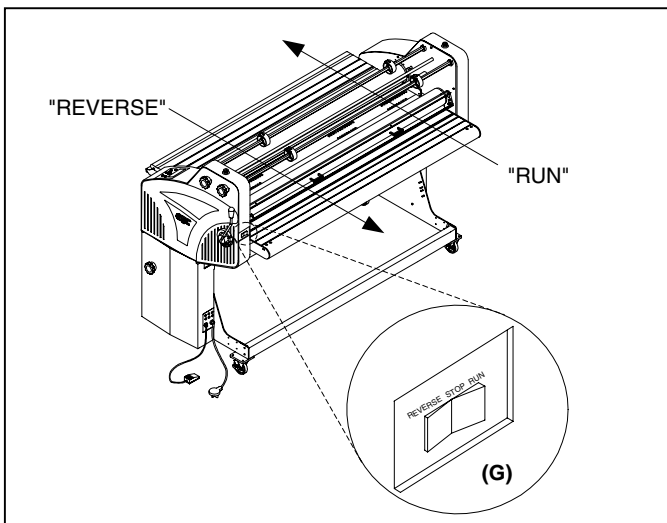

Fig. 11
**G. REAR CONTROL SWITCH:** (Figure 11) This switch enables the operator to run jobs from the rear operating position of the laminator when rear controls are enabled.